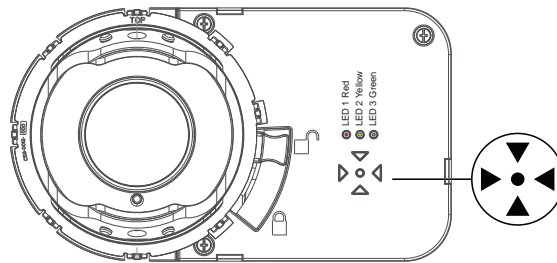
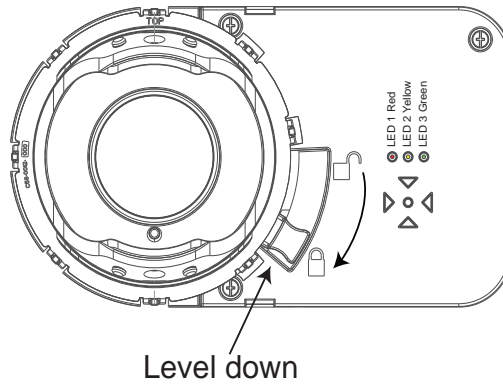

Figure 13-3: Arrow Array
Figure 13-5: Locking and Securing the Eyeball
* Refer to Figure 13-3 and Figure 13-5 for LEDs 1, 2, and 3.